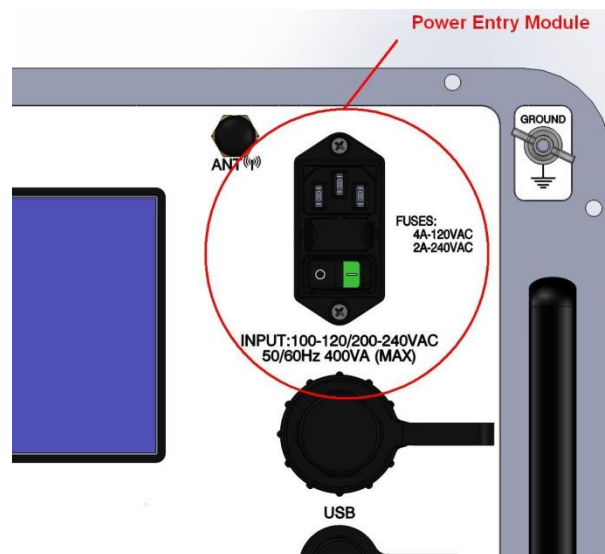

Figure 4 Power Entry Module
- A. Power Entry - the power entry module pictured in Figure 4 is a connector Style IEC 320-C14 module with an Illuminated ON/OFF Switch and equipped with an internal fuse holder.